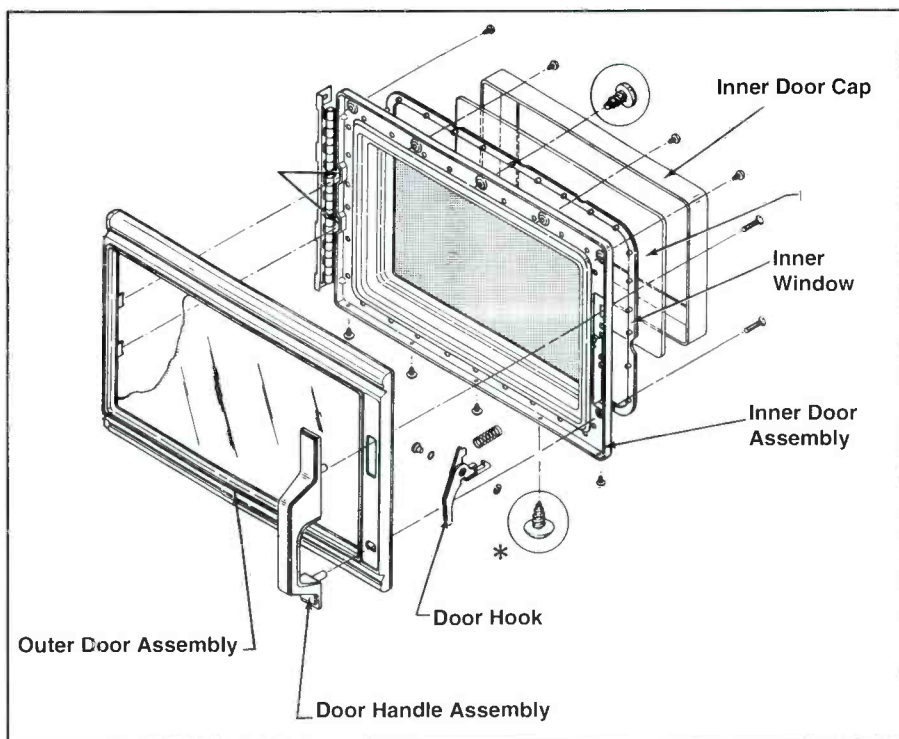

Figure 2. Microwave oven door assembly.
*Microwave oven door assemblies* have five parts: the end cap; the dust cover; the door frame; the door latch; and the door strike. The end cap (Figure 2) typically attaches to the door through three screws and fits over the dust cover. In addition to allowing the removal of the dust cover, the removal of the end cap also exposes the door latch screws and the door strike. In most cases, the removal of the complete oven door is unnecessary. However, the alignment of the door affects the operation of the door switch assemblies.